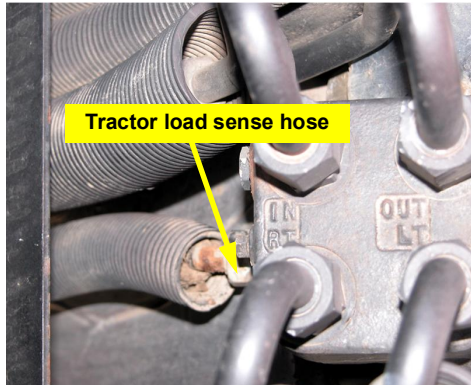

Figure 8-2b: Locating the load sense hose
b. Locate the tractor load sense hydraulic hose on the front of the steering orbital (Figure 8-2b).